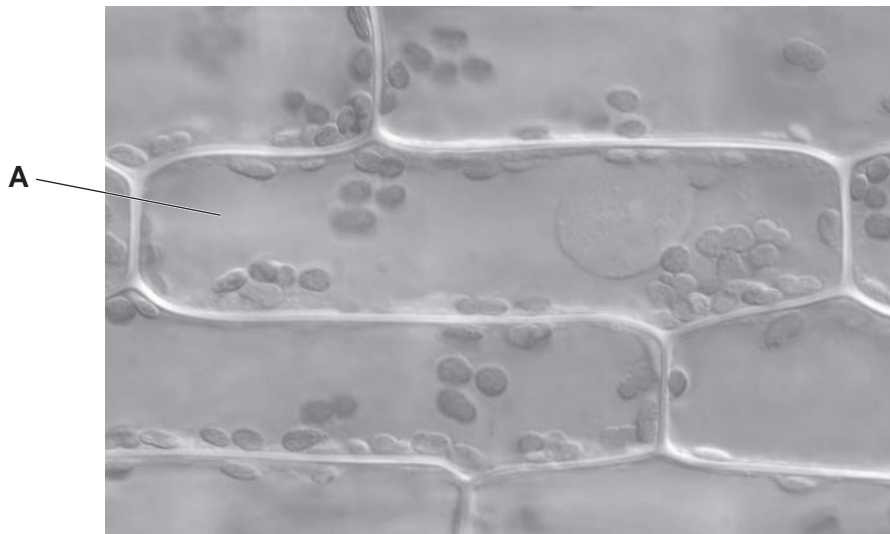

Fig. 2.1
- 2 (a) Fig. 2.1 is a photomicrograph showing several cells from an *Elodea sp.* aquatic plant.
- (i) Draw a large diagram of the cell labelled **A** in Fig. 2.1.